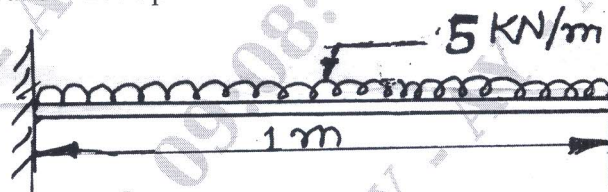

Fig Q7(b)
b. Determine the maximum deflection in the uniform cross section of cantilever beam as shown in Fig Q7(b). Take  $E = 200\text{Gpa}$  and  $I = 10^9\text{mm}^4$ .